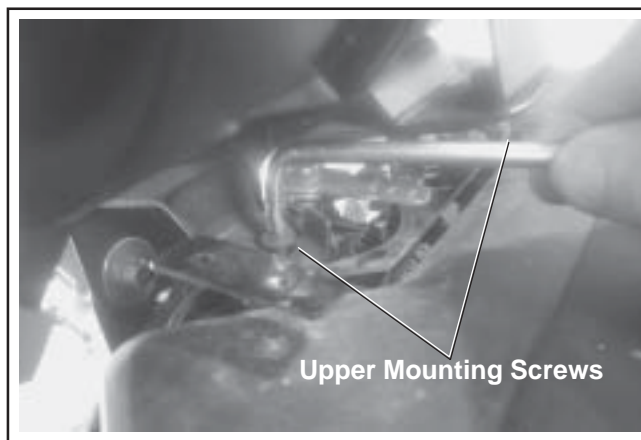

Figure 9-12. Removing Upper Mounting Screws.
4. Remove the two upper screws securing the air cleaner mounting bracket to the blower housing and remove the air cleaner assembly. See Figures 9-12 and 9-13.